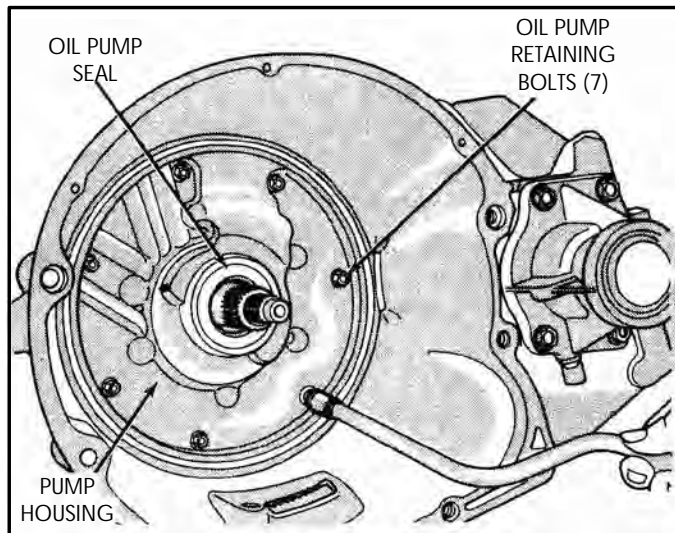

Figure 234
18. Install the oil pump retaining bolts, as shown in Figure 234, and torque to 31 N·m (20 ft.lb.).